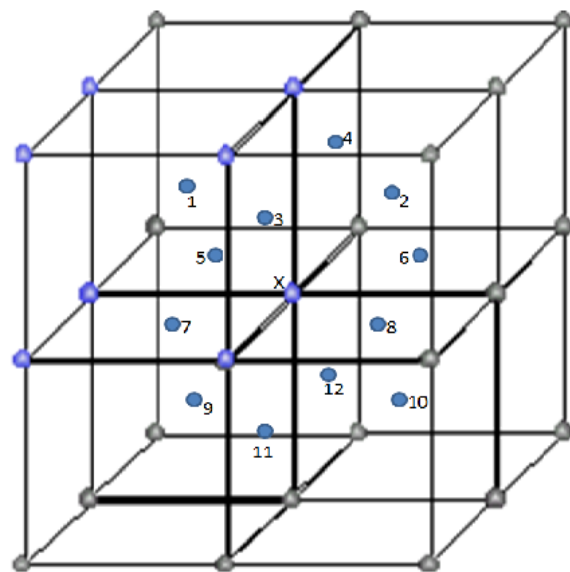

Fig 5.23
To calculate the co-ordination number, for FCC, let us consider a corner atom (X) as shown in fig 5.23. In its own plane it has 4 face centered atoms (5, 6, 7, 8) as nearest neighbours. In a plane which is lie just above this corner atom, it has 4 more face centered atoms (1, 2, 3, 4) as nearest neighbours. In a plane which is lie just below this corner atom, it has 4 more face centered atoms (9, 10, 11, 12) as nearest neighbours. Therefore, the total number of nearest atoms to any corner atom is  $4+4+4=12$ . Hence, the co-ordination number for FCC is 12.
The corner atoms do not touch each other. However, each corner atoms touches the face centered atoms along the diagonal of the face of the cube as shown in fig 5.24 (a). It is clear from fig 5.23 that the nearest neighbouring atoms are corner atoms A and C and the face